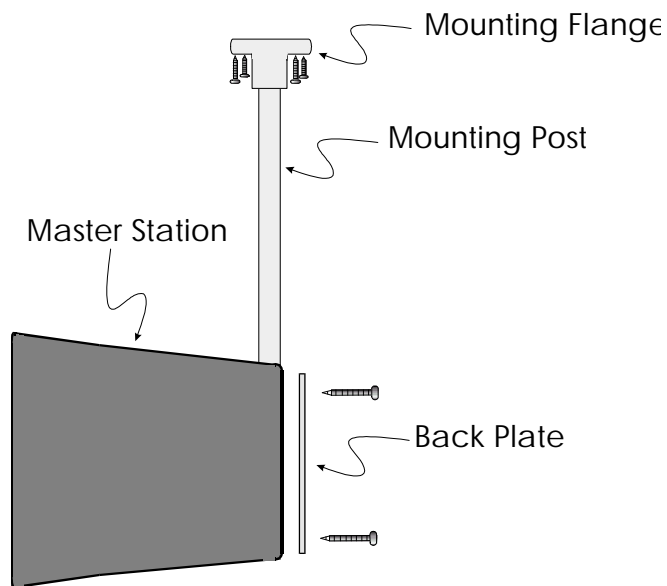

Figure 2B
9. Mount the master station to the #671 Mounting Plate with the four #6-32 x 1/4" pan head screws (Fig. 2B).